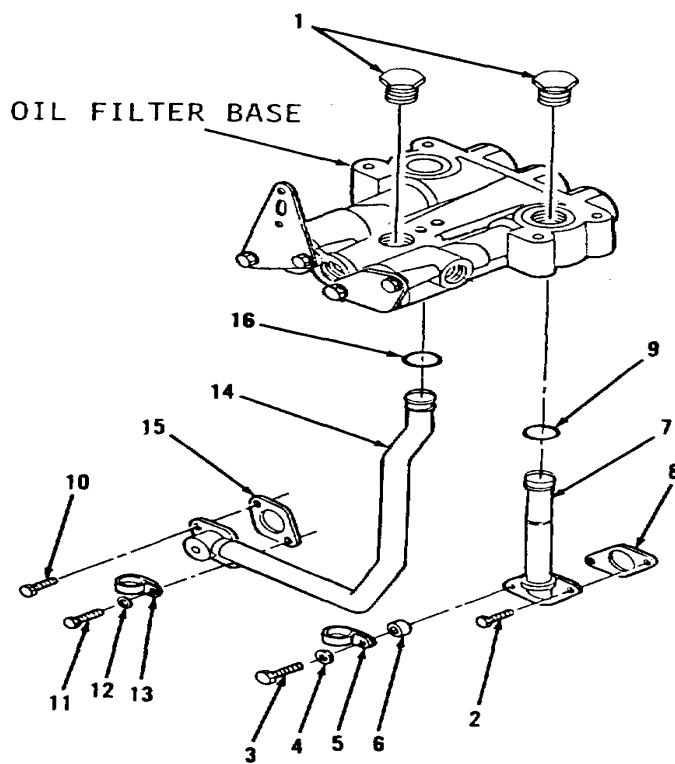

Figure 3-76.
5. Install items 42 thru 28 as an assembly.
6. Install washer (27), bolt (26), washer (25), bolt (24), washer (23), bolt (22), washer (21) and bolt (20) to left side of engine.
7. Install two spacers (19), washers (18) and bolts (17).
8. Install new preformed packing (16), new gasket (15), tube (14), clip (13), washer (12) and bolts (11 and 10, Figure 3-76).
9. Install new preformed packing (9), new gasket (8), tube (7), spacer (6), clip (5), washer (4) and bolts (3 and 2).
10. Install two plugs (1) to top of oil filter base.